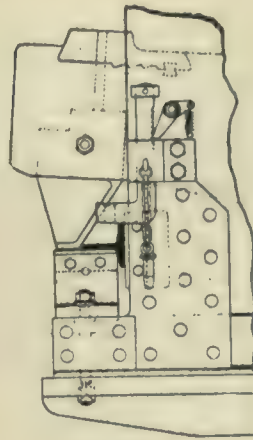
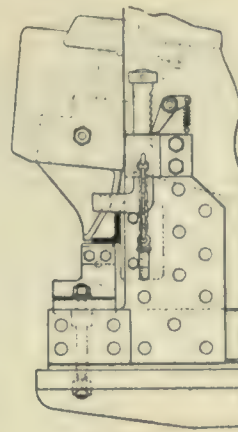
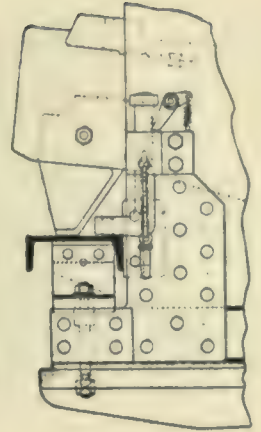

Fig. 9.
Fig. 10.
Fig. 11.
12. It shows the machine ready to cut an I-beam, which is done in two operations. Fig. 9 shows the machine cutting a T-shape; Fig. 10 an angle, and Fig. 11 a channel. The machine is manufactured in Germany and it is one of the great time-savers used in bridge building. Steel shapes can be cut to length by the pulling of a lever, where formerly a power hack saw would saw off a very limited number in a day.